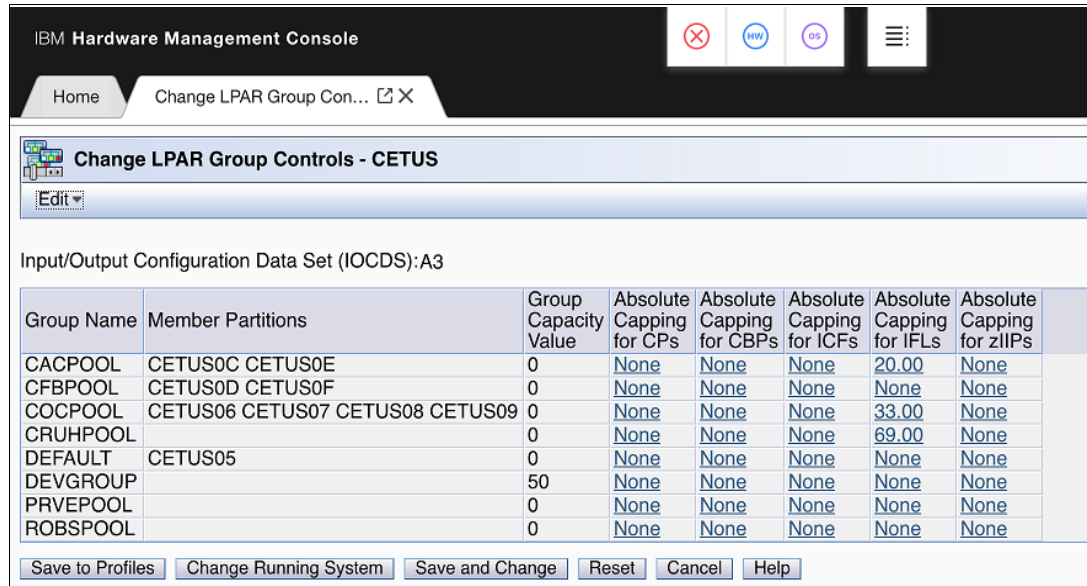

Figure 10-17 Change LPAR Group Controls: Group absolute capping
- Use Change LPAR Group Controls (as with windows that are used for software group-defined capacity), as shown in Figure 10-17 (snapshot on a z15).